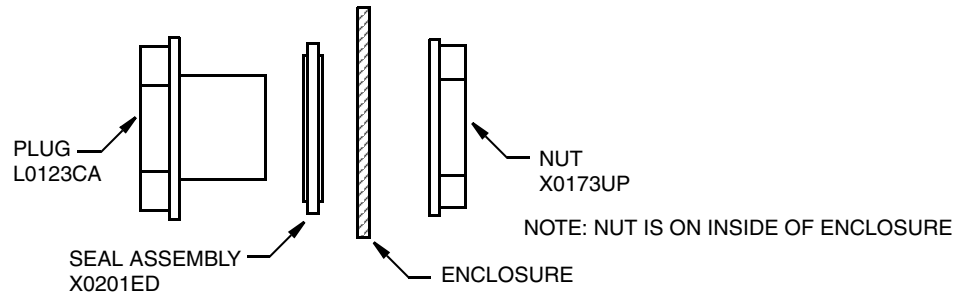
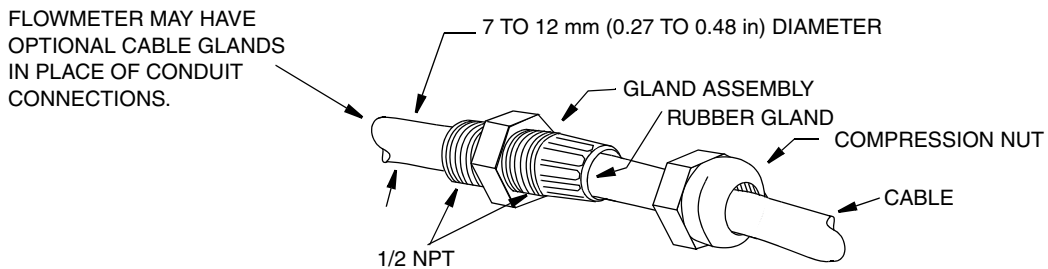

Figure 6. Conduit Hole Plug
Figure 7. Optional Cable Glands for Use in Nonconduit Installations
Four 22 mm (0.866 in) diameter conduit holes are located on the bottom of the transmitter (see Figure 5). The holes are sized to accommodate PG 13.5 or 1/2 NPT conduit connectors (provided by user). If conduit is used, separate runs are recommended for input signal, output signal, flowtube coil drive wires and ac supply. To maintain IEC IP66 and NEMA 4X moisture, dust, and corrosion protection, use approved watertight conduit fittings and plug all unused holes with the plug, seal ring and nut shown in Figure 6. IPS also offers optional cable glands for nonconduit applications (see Figure 7).
Optional cable glands are used in nonconduit applications to provide a raintight, strain relieved entrance for 7 to 12 mm (0.27 to 0.48 in) diameter cable. The body and the seal nut are nylon; the compression gland is neoprene. See Figure 7.
6. If the flowtube has optional cable glands, turn the compression nut (shown in Figure 7) until the rubber gland is snug around the signal cable.